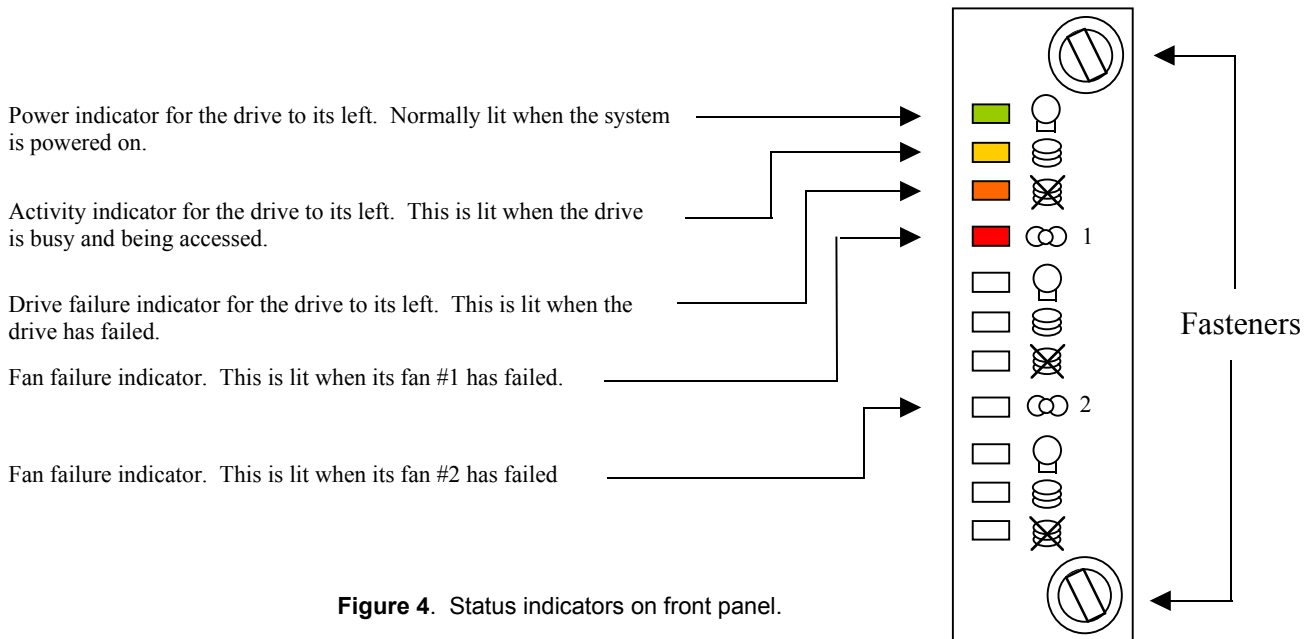

Figure 4. Status indicators on front panel.
Along with their display functions, the fans that these panels contain provide cooling for the bank of three (3) drives to their left. If they are removed while the RAID system is powered ON, the drives could overheat. See figure 4 for a diagram of the display/fan panels and brief descriptions of their status indicators.